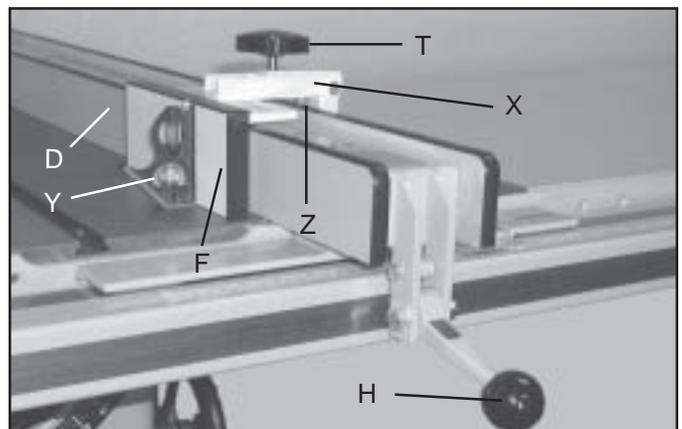

Fig. 9
13. Place entire cut-off fence assembly (X) Fig. 9, so it straddles the saw fence (D) as shown, and tighten knob (T) until cut-off fence assembly (X) is firmly clamped to the saw fence (D). Then secure saw fence (D) in place by pushing down on handle (H).
14. Using a square (Y) Fig. 9, determine if cut-off fence board is 90 degrees to saw table. If an adjustment is necessary, loosen knob (T) slightly and turn adjustment screw (Z) accordingly. Then tighten knob (T) and recheck squareness. Repeat adjustment if necessary.